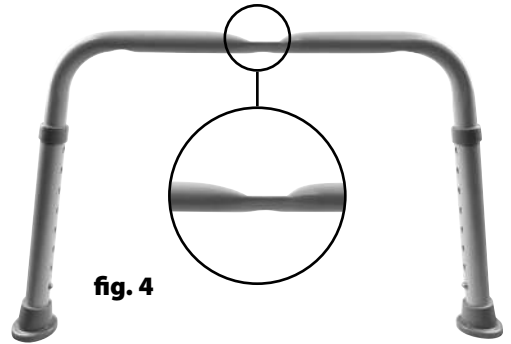

fig. 4
4. Identify leg assembly B. (When stood up Leg Assembly B has a cut-out on the top of the tube and the underside of the tube is flat (see fig. 4)